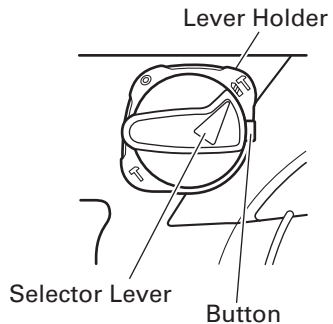

Fig. 6
- Align ▲ of the selector lever and **HT** of the lever holder as illustrated in Fig. 6.